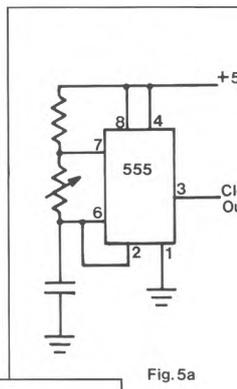

Fig.5a
**Clock sources.** Figures 5a and 5b show two sample circuits for clock drivers. 5a is best if you need to feed a lot of switches, because of its large drive capacity (200 mA). 5b is simpler, and only uses 1/4 of a 4093.